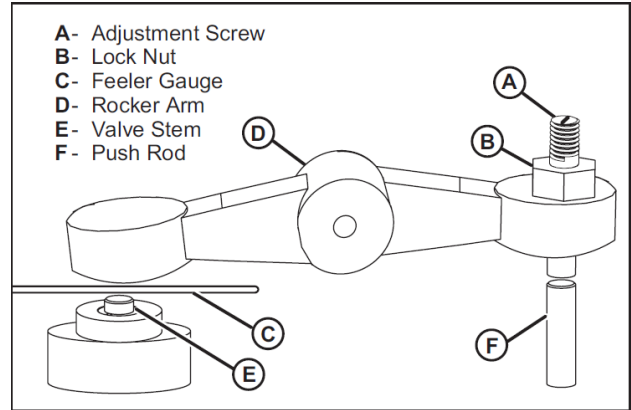

Figure 35 Set Valve Clearance
7. Pull the recoil starter handle slowly in small increments until the engine is at top dead center (TDC). Look through the spark plug hole to observe that the piston is at the top of its stroke and check by hand that both rocker arms are loose with some play between each one and its corresponding inlet or exhaust valve. (See Figure 35).